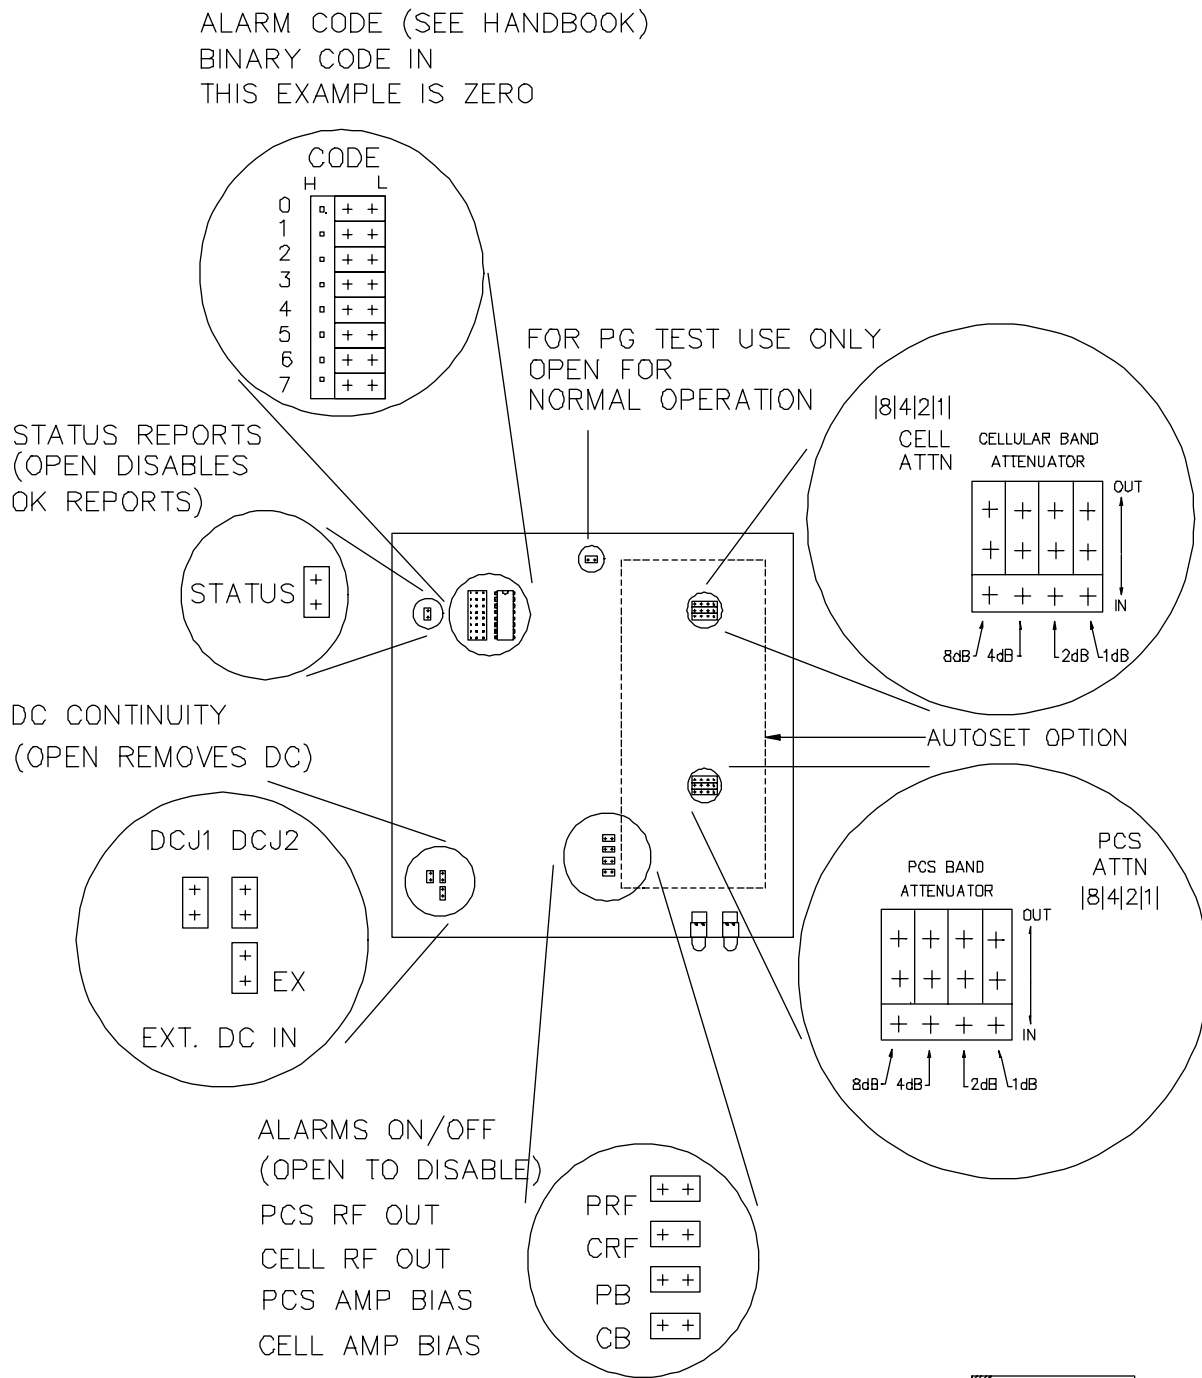

Figure 4-1. A211 Programming Options - Jumper Locations
**NOTE:** Section 4.0 of this manual describes programming details. For convenience a reduced size copy of diagram Figure 4-1 is provided on the inside of the amplifier cover as a reference.
The A211 amplifier contains a number of options which are programmed before the unit is installed, or may be adjusted during system installation or modification. They are set in a default setting by PG before shipment. A summary diagram of these jumpers and switches is affixed to the inside of the removable amplifier cover for use in the field, but a larger view is shown herein (Fig 4-1) together with the following description of these settings.
1. Refer to the jumper field with a block of eight jumpers labelled 0 to 7 in Figures 4-1 and 4-2.